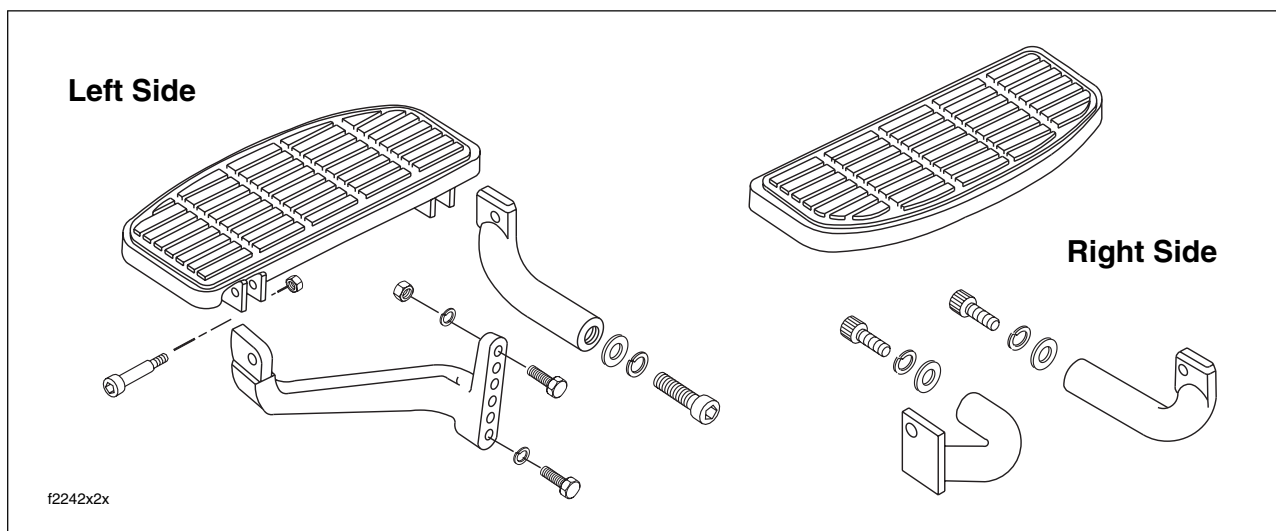

Figure 2-189. Rider Footboards (All Models Except FLHRS)
- a. Remove two allen head socket screws (with lock washers and flat washers) to release footboard brackets from frame weldment. See Figure 2-189. For best results, approach from left side of motorcycle using a 3/8 inch ball allen with extension.
- b. Remove socket screw (with lockwasher and flat washer) to release footboard forward bracket from frame weldment. See Figure 2-189. For best results, approach from opposite side of motorcycle using a 3/8 inch ball allen with extension.
- a. Insert two allen head socket screws (with lockwashers and flat washers) through frame weldment into footboard brackets. See Figure 2-189. For best results, approach from left side of motorcycle using a 3/8 inch ball allen with extension.
- a. Insert allen head socket screw (with lockwasher and flat washer) through frame weldment into footboard forward bracket. See Figure 2-189. For best results, approach from opposite side of motorcycle using a 3/8 inch ball allen with extension.